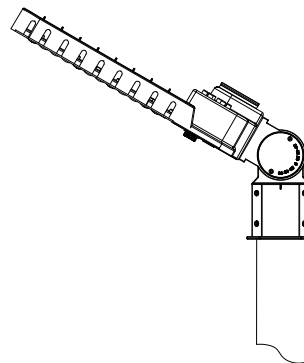

FIG. 9
2. Tighten the four M8x25 bolts on the slipfitter and secure it to the pole (see **FIG. 9**).